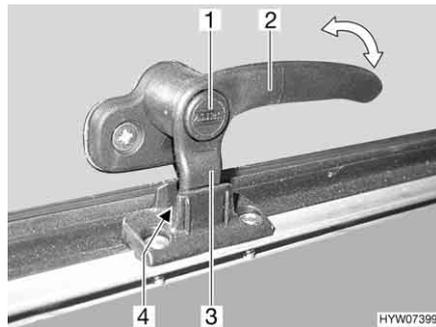
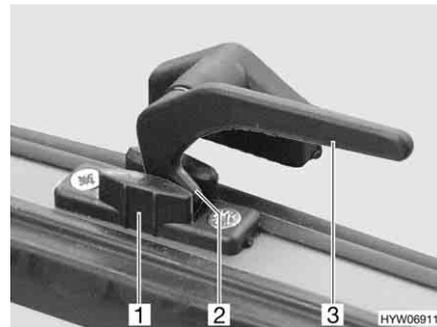

Fig. 100 Catch lever with safety knob in "continuous ventilation" position
Fig. 101 Catch lever in the "continuous ventilation" position
- "Continuous ventilation" (Fig. 100 and Fig. 101)
- Press and hold the security button (Fig. 100,1), if present.
- Turn the catch lever (Fig. 100,2 or Fig. 101,3) a quarter turn towards the centre of the window.
- Return the catch lever to its initial position. Move the locking catch (Fig. 100,3 or Fig. 101,2) on the catch lever into the recess of the window catch (Fig. 100,4 or Fig. 101,1).